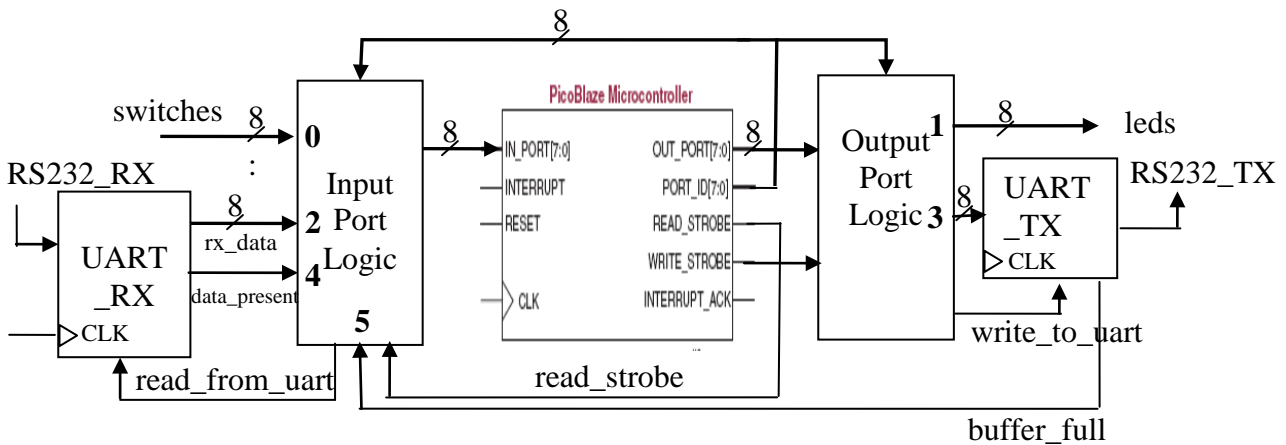
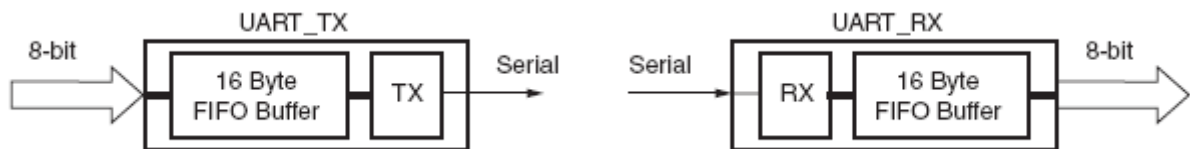

Figure 1: A simple loopback system
Figure 2 : UART Transmit and Receive Blocks - High Level View
- 3. (15 pts.) Simple Loopback System¹:** Consider a simple “loopback” system as in Fig. 1. In such a setup, a PC can send a message which is returned (looped) back to PC by the processor. Such a loopback test is helpful to test if the processor is alive or not.
Now, let us consider the case when PicoBlaze acts as a transmitter i.e., PC is the receiver. In this case, PicoBlaze puts out 8-bit data while PC is expecting serial data. Again, UART (`UART_TX` in Fig. 1) comes to our rescue! The output bus with `id=3` is connected to `UART_TX`. Output Port Logic block interfaces PicoBlaze with `leds` and `UART_TX`.
In this system, we can also manually provide 8-bit data via 8 switches (switches bus in Fig. 1). PicoBlaze can write 8-bit data to drive 8 leds (leds bus in Fig. 1).
Recall that PicoBlaze can accept up to 256 input ports each of which can be addressed by 8-bit `PORT_ID` bus. Similarly, it can drive up to 256 ports and the address of the port being driven appears on `PORT_ID` bus. In Fig. 1, for example, the `id` of the input port, switches, is 0. Similarly, the `rx_data` has `id` of 2. The port `ids` are shown in **bold** font in the Fig.1. The high-level views of UART in transmit and received modes are shown in Fig. 2.